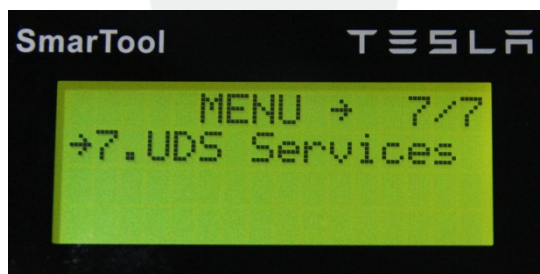

Figure 2
5. Press the down button to scroll to UDS Services (Figure 2). Press the ENTER button.